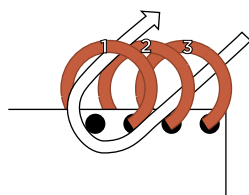

FIG. 2
4. Thread 1 open (green) jump ring through starter jump rings 3 and 2, moving right to left from behind the starter tool. Then thread the jump ring through starter jump ring 1, moving left to right from the front of the starter tool, as marked in **FIG. 2**. You will use a TE connection between jump rings 3 and 2, and an AE connection between jump rings 2 and 1 (page 22).